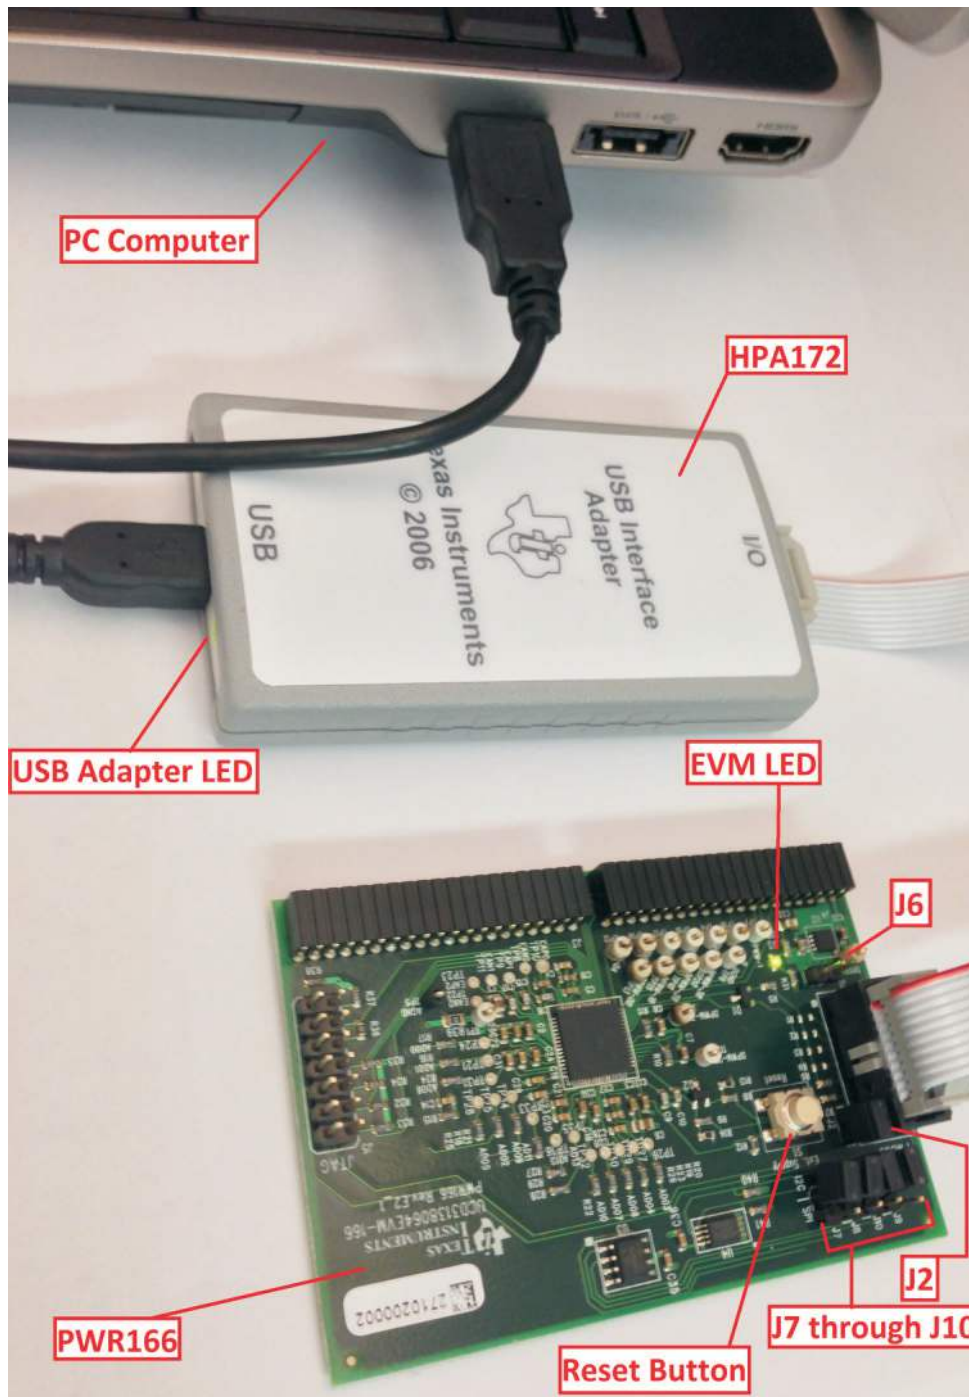

Figure 4. UCD3138064EVM-166 Test Connections
Shown below in Figure 4 is the connection between UCD3138064EVM-166 and the PC computer through USB-to-GPIO Interface Adapter.
Set up the EVM connection based on Figure 4.
1. Set up the EVM connection based on Figure 4. The LED of USB adapter is light on.